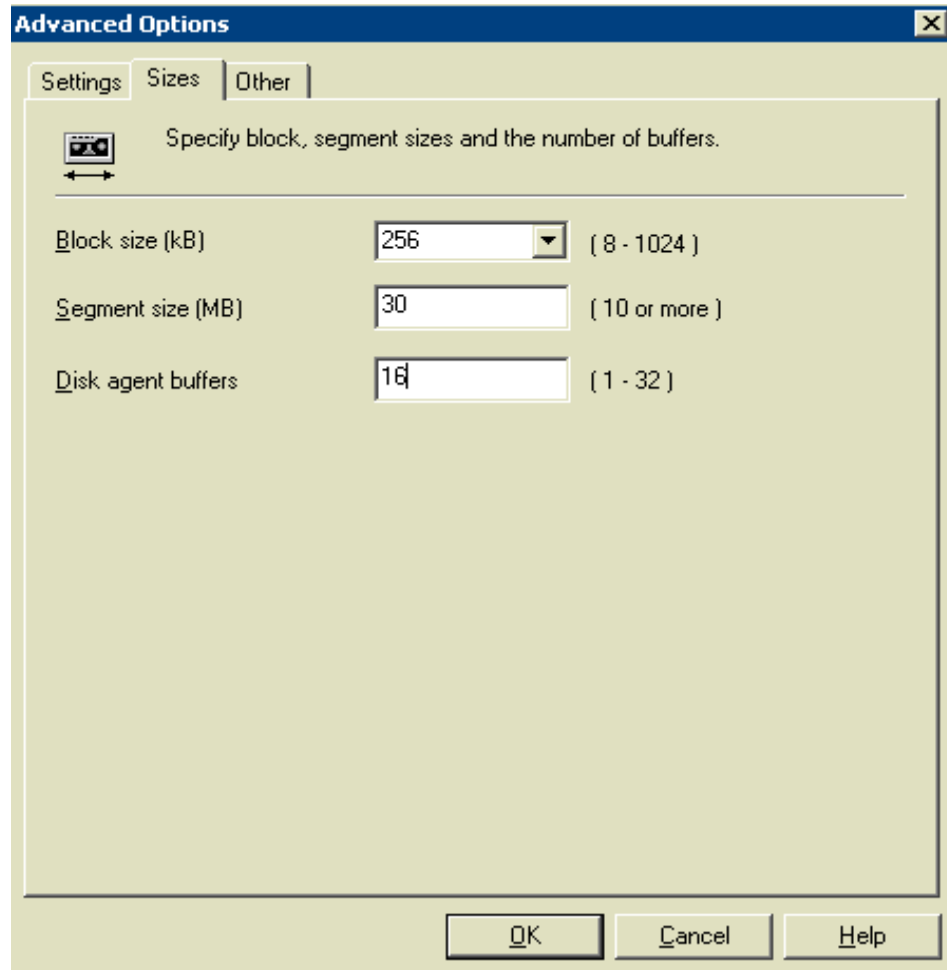

figure 8
13. Check that **FileMedia** is selected as the **Default Media Pool**. If you want to change any parameters, click **Advanced**. Figure 8 is displayed.